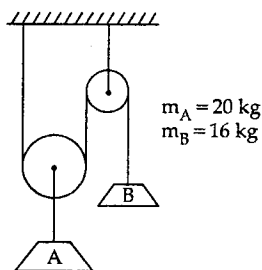

Fig. 12
8. (a) Find the accelerations of Block A and B as shown in the fig.12, if system is released from the rest. Neglect friction and inertia of the pulleys.